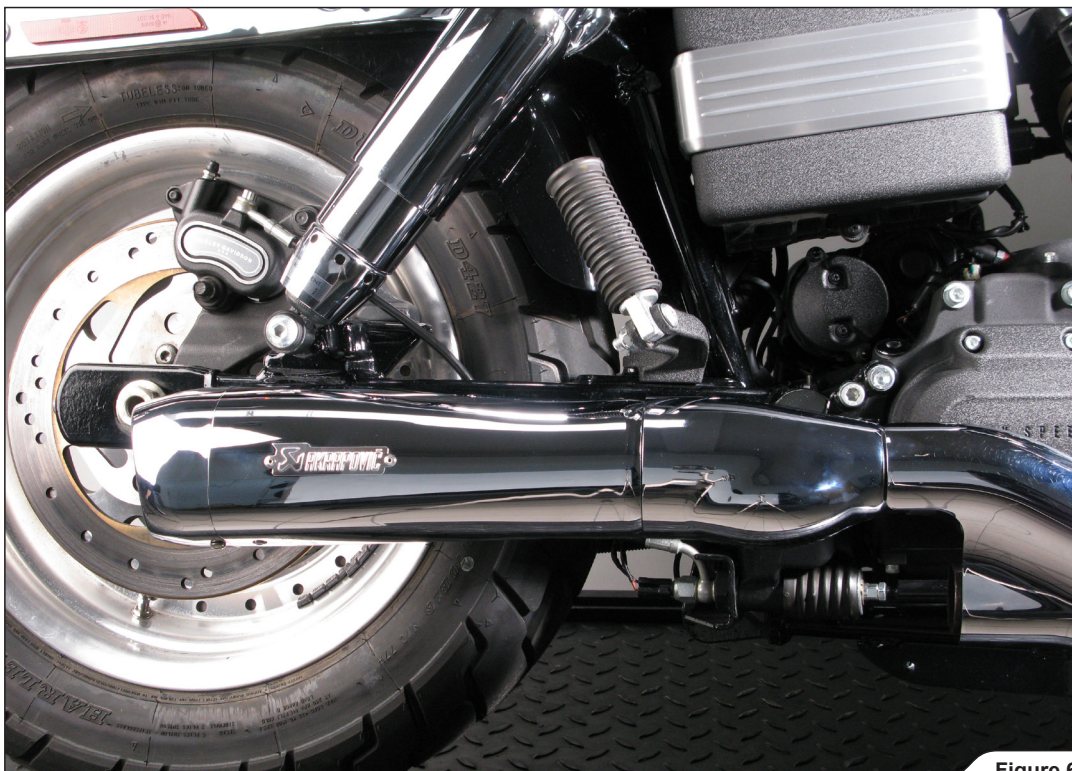

Figure 6
2. Slide the assembled mufflers onto the original headers; rotate the asymmetrical link pipes, till perfect fit of mufflers and heat shields (Figure 6, 7).